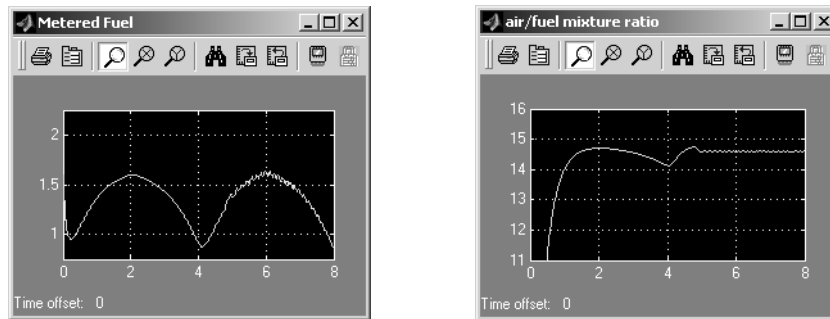

Figure 2-2: Signals Displayed at End of Simulation or Cosimulation
- 9 When the simulation completes, the LED stops blinking. The signals displayed on the scopes should appear as shown in Figure 2-2.
- 2 Open the Scope blocks and start the simulation. When the simulation completes (simulation time is set to 8 seconds), the signals displayed on the scopes should appear identical to those displayed during the previous cosimulation (see Figure 2-2 on page 2-16).
- 2 Start the simulation. You will notice that the simulation completes much more quickly, due to the efficiency of the generated code. Also, observe that the generated code displays results, on the scopes, that are identical to the previous simulation and cosimulation (see Figure 2-2).